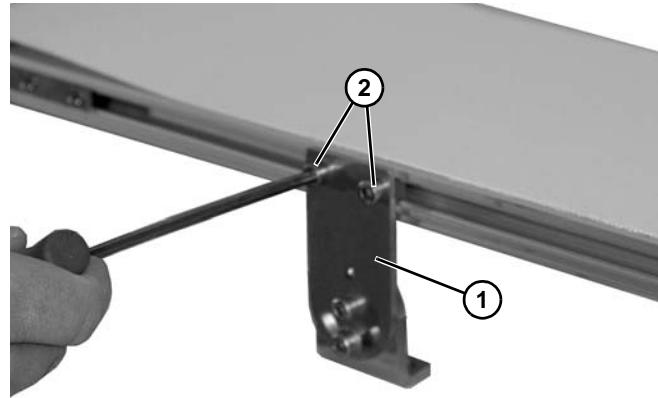

**Figure 7**
1. For standard mounting brackets, insert one T-bar (**Figure 7, item 1**), or pivoting mounting brackets, install two T-bars (**Figure 7, item 1**) into conveyor side slots (**Figure 7, item 2**).